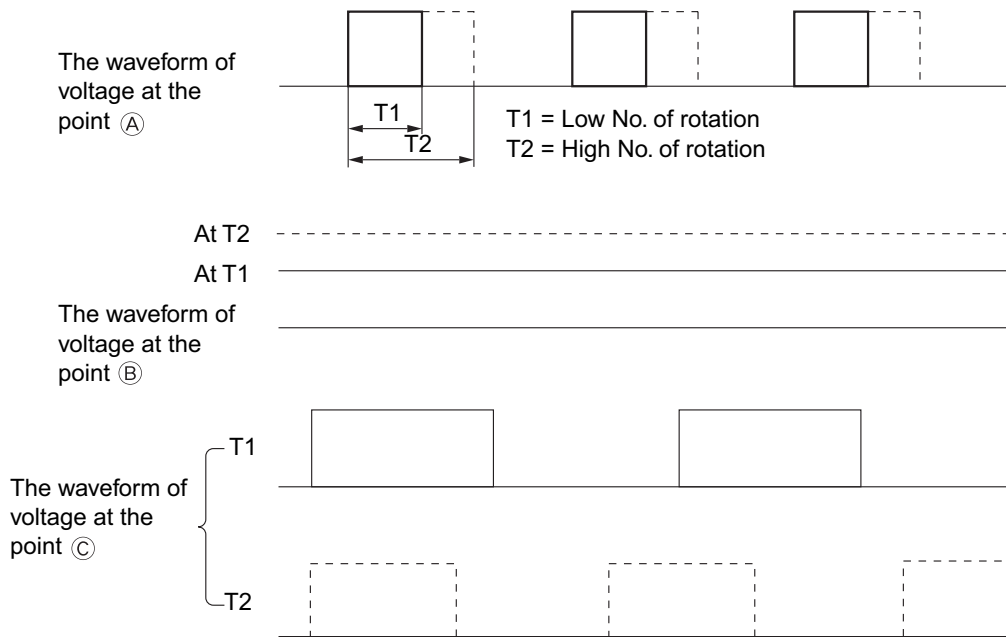

Fig. 5-2
- The 15.7 kHz PWM pulse shown in Fig. 5-2 from the micro-computer pin ④⑩ is output to point ①. The width of this pulse changes with instruction number of rotations.